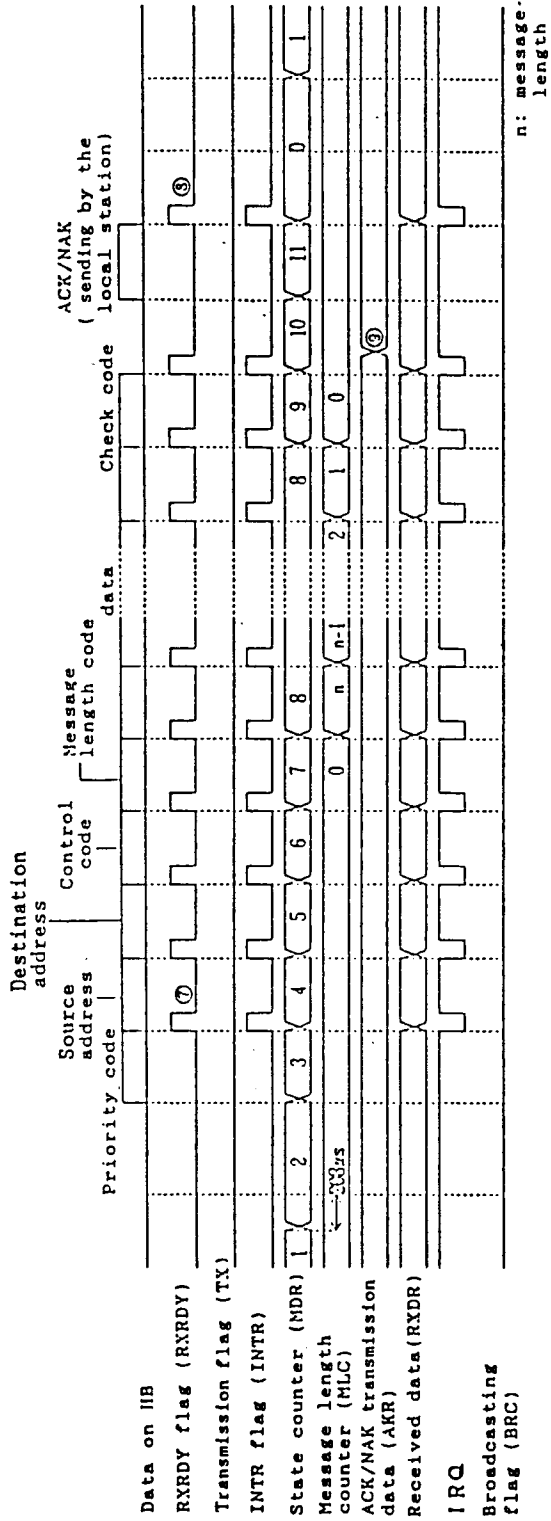

Figure 4.3 Data receiving operation (individual)
4.1.2 Receiving operation (See Figures 4.3 and 4.4.)
4.1.3 ACK/NAK sending operation (See Figures 4.3 and 4.4.)